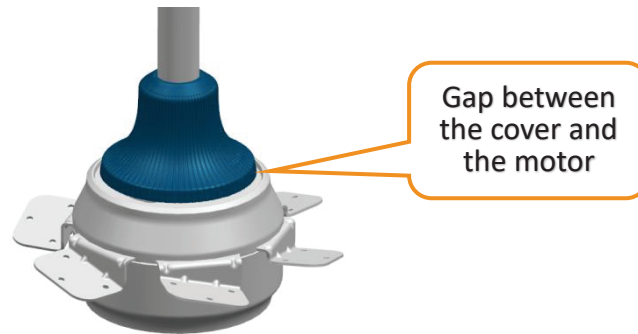

Figure. 4.3
⑤ Push the lower decorative cover downward to cover the installations on motor shaft, where there are two pre-installed M4*10 hexagonal screws on extension tube that prevent the lower cover from sliding down. Please be aware there should be a gap between the cover and the motor (see Figure 4.3)